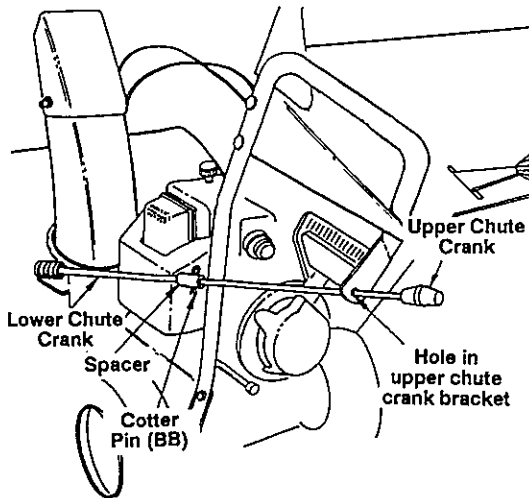

FIGURE 9
- Insert upper chute crank through hole in upper chute crank bracket then into spacer. Secure with cotter pin (BB) (1/2" diameter) as shown in figure 9.